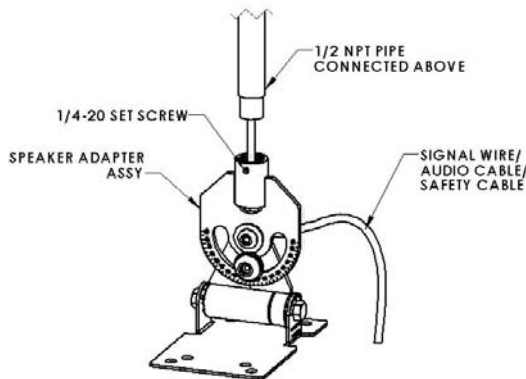

Figure 1
Step 1: A 1/2 NPT pipe should already been installed from the ceiling before proceeding to attach the MM-3RDX-18 (Figure 1).
Step 2: Attach MM-3RDX-18 to 1/2 NPT pipe, then lock with set screw (Figure 1).